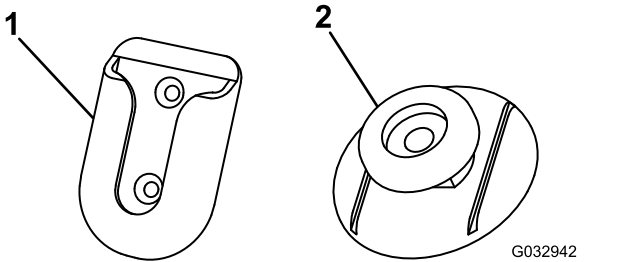

Figure 27
3. Clean the back of the swivel mount (Figure 27) with the alcohol wipe and then dry it.
7. Remove the backing from 1 side of the adhesive and apply it to the back of the mounting tab (Figure 27).